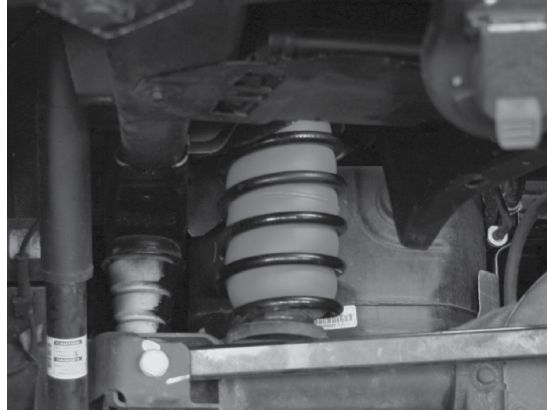

fig. 3
4. Even though it may be perceived that the air spring cylinders work by pushing up and down on the upper and lower spring seats (they also do this), the “lifting or supporting” of the vehicle actually comes from the air spring cylinders, being inflated, slightly bulging in between the coil springs and “pushing or spreading” them thus helping support the vehicle’s sprung weight (Fig. 3). With this in mind, it is not necessary to fit the inside diameter of the steel spring exactly and it is recommended that the air spring cylinder be a little undersized. Do not put an air spring cylinder with a larger outside diameter in a smaller ID coil spring. This will likely cause the early failure of the air spring cylinder.